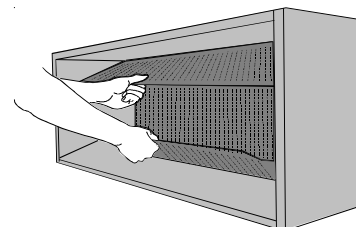

Figure 8 - Panel Removal
2. Grasping the top and bottom flanges of the rear closure panel as shown in Figure 8, pull the entire panel out diagonally from one side.